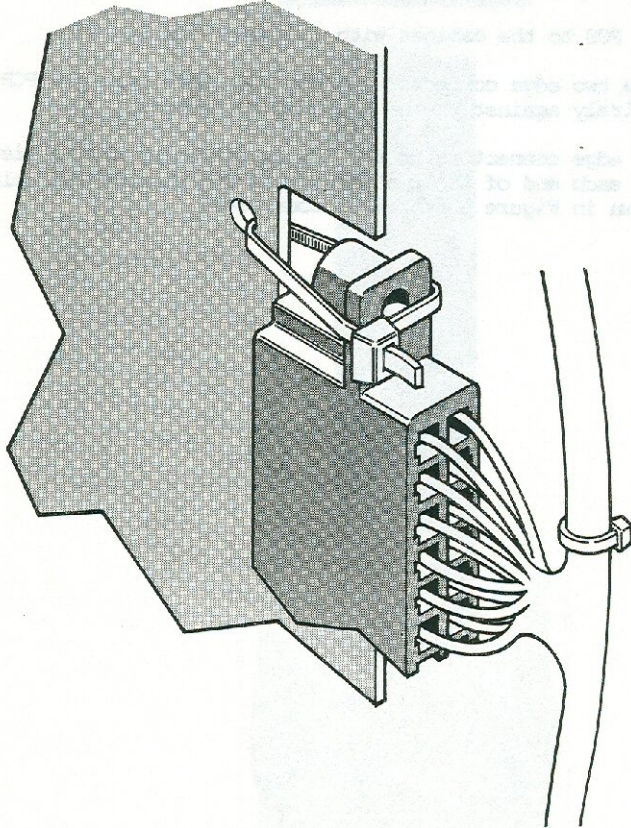

Figure 5 PCB Edge-Connector Wire-Tie Installation
4. Secure the edge connectors to the PCB by fastening a wire tie around the eye at each end of the two connectors and through the hole in the PCB as shown in Figure 5 (total of four ties).
the PCB as shown in Figure 5.